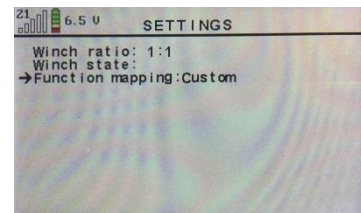

figure: 17
- Then open **settings** by pressing the ✓ button and use the ⏏ button to go to **function mapping** (see *figure 17*).
- Now press the ( ▶ ) button to set the function to **custom** (see *figure 17*).